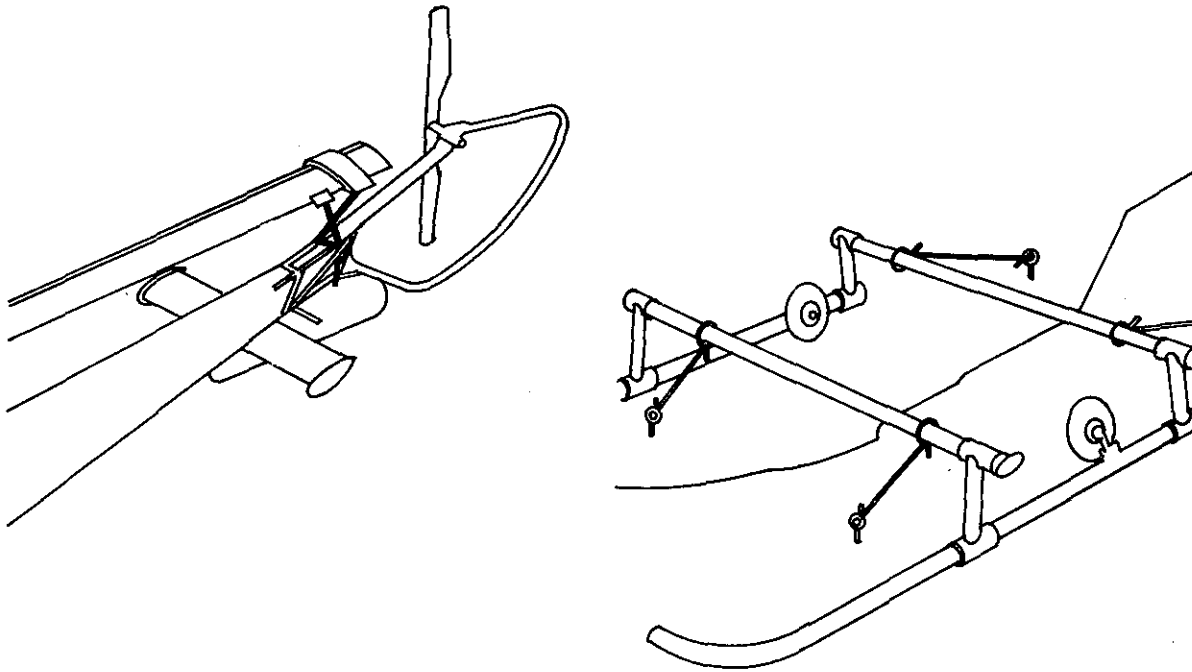

FIGURE 11-29. Securing helicopter blades and fuselage.
4. Install a tiedown assembly on the end of the blade (figure 11-29) and align the blade over the tail boom. Secure the tiedown straps under the structural tubes of the tail boom. Tie the straps snugly without strain. During wet weather, provide some slack to avoid the possibility of the straps tightening.